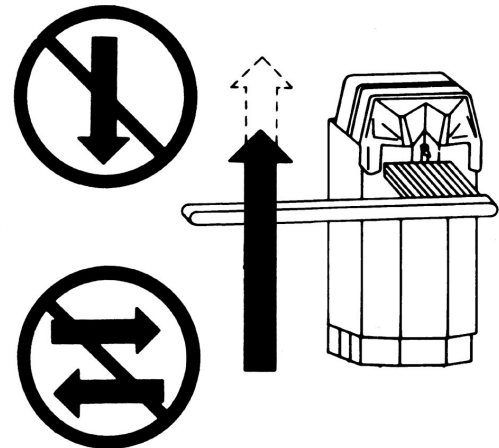

Figure 9. Clean Stylus
- Clean the stylus with the supplied cleaning brush. Important: brush from the back to the front only, as shown in Figure 9.